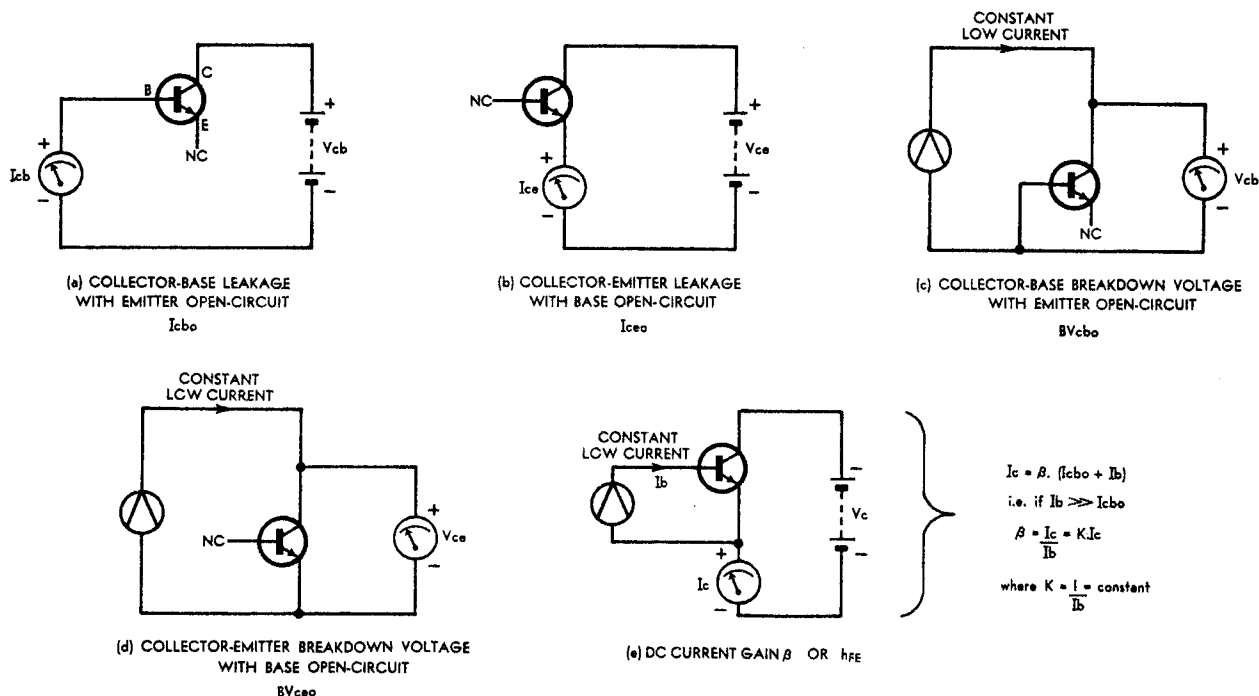
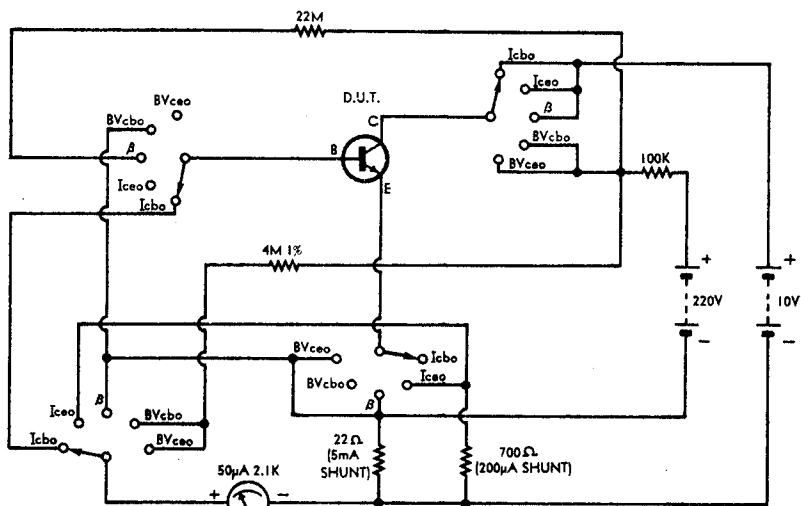

Figure 4
Figure 5
**BIPOLAR TRANSISTORS:** Five of the most basic and useful tests available for evaluating bipolar transistors are illustrated in figure 4. (The circuit symbols and polarities shown are those for NPN devices; for PNP devices the circuits would be unchanged but the transistor symbols and polarities changed appropriately.) There are two tests concerned with leakage currents, and two concerned with breakdown voltage drops; the final test deals with DC current gain.
The usual method of measuring the reverse-bias leakage current of the collector-base junction is shown in figure 4 (a); as may be seen the circuit involved is similar to that used in figure 1(c) for a diode. As the test is made with the emitter disconnected the leakage current measured is designated  $I_{cbo}$ , where the "O" signifies that the third electrode of the device is left open circuited.
While measurement of  $I_{cbo}$  shows the basic leakage current of a transistor, it does not indicate the extent to which leakage will tend to influence the behaviour of the transistor in circuit. The latter behaviour will tend to depend largely upon the current gain; accordingly it is usual to make a second leakage measurement, using the circuit shown in figure 4 (b). The quantity measured in this case is  $I_{ceo}$ , the collector-emitter (amplified) leakage current with the base left open circuit.
The fifth transistor test illustrated in figure 4 is that for DC common-emitter current gain, shown in diagram (e). This transistor characteristic is commonly known as  $\beta$  (beta) or  $h_{FE}$ .
Figure 5 shows a practical bipolar transistor test circuit based upon the five tests shown in figure 4. Again a protected 50uA meter movement is